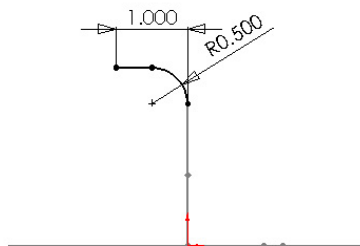

Figure 4. Developing the third sketch.
15. Start a new sketch on the **Right** plane and create a sketch shown in figure 4, which shows the completed sketch as seen from a **Right** view. Once again, tangent relationships between the arc and adjacent geometry are critical to the design intent of the model. Make sure the start-point arc is coincident to the endpoint of the line in the second sketch.